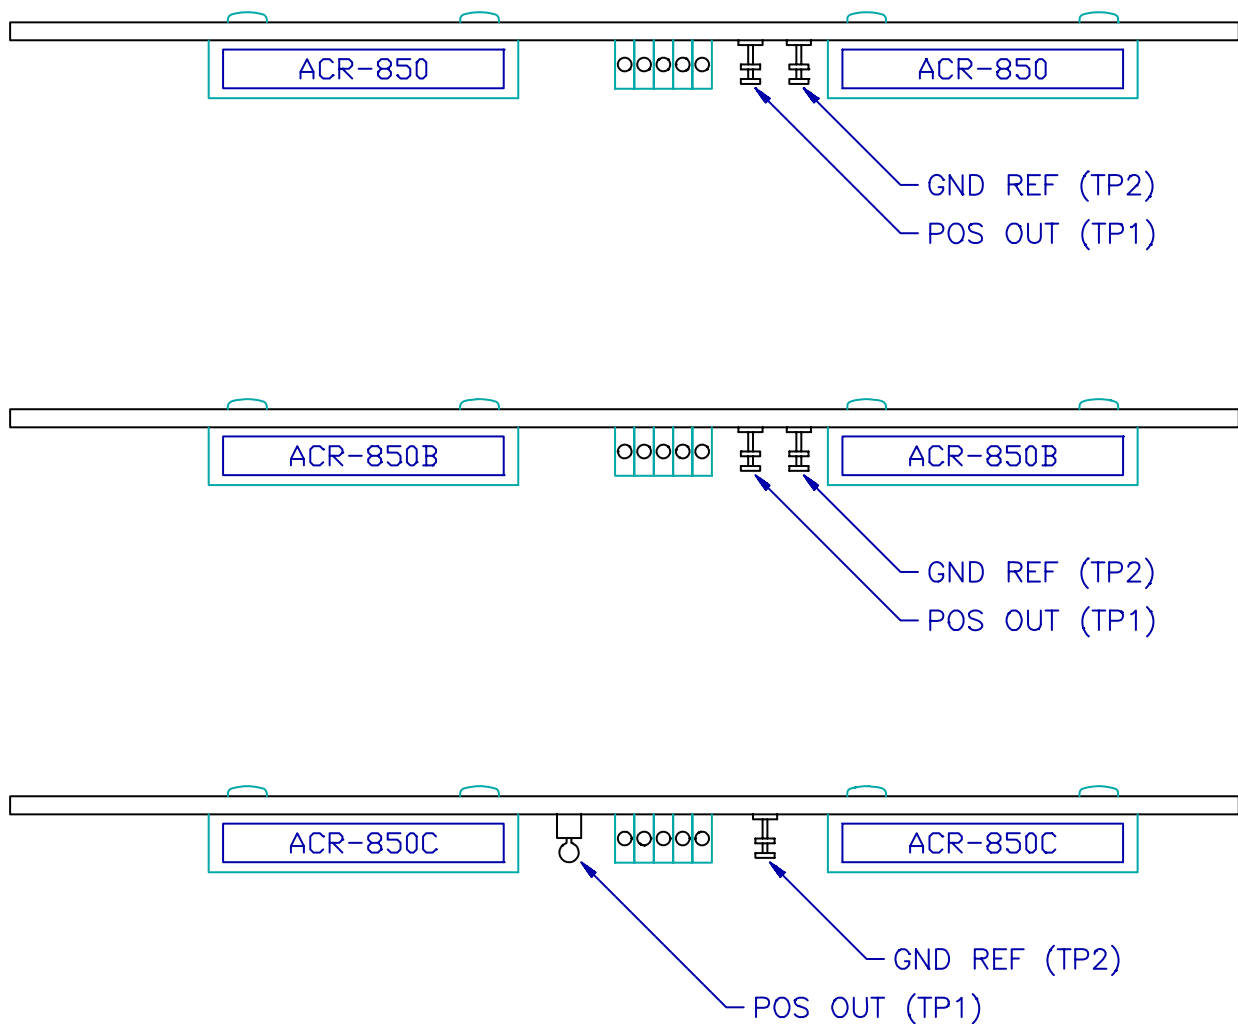

Figure 5-4 Location of Tests Points TP1 and TP2
6. Connect the red and black meter leads to test points TP1 (POS OUT) and TP2 (GND) respectively (Figure 5-4).